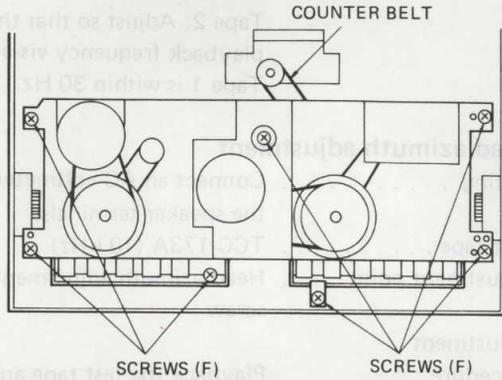

Fig. 6
- 2) Remove the 7 cassette mechanism fixing screws (F) shown in Fig. 6.